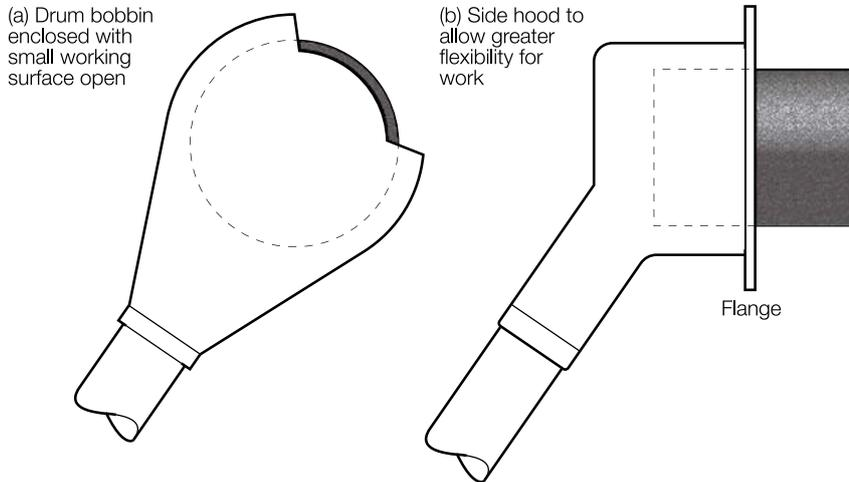

Figure 1 LEV hoods for drum/bobbin sanders
- ✓ Hoods which more fully enclose the sanding drum will give more effective dust control (Figure 1(a)).
- ✓ The movement of the sanding belt produces air currents which are often strong enough to counteract the LEV. Flanges on extraction inlets improve dust capture (Figure 1(b)).